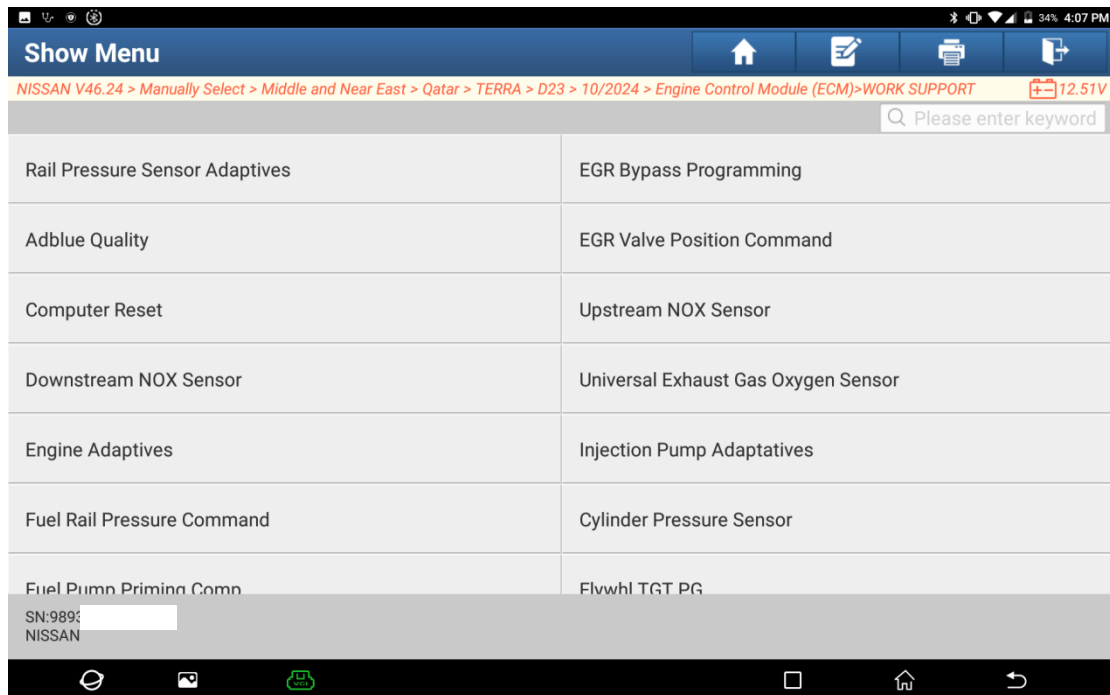

Figure 10
6. Click [WORK SUPPORT] to enter the [WORK SUPPORT] menu interface (Figure 10).